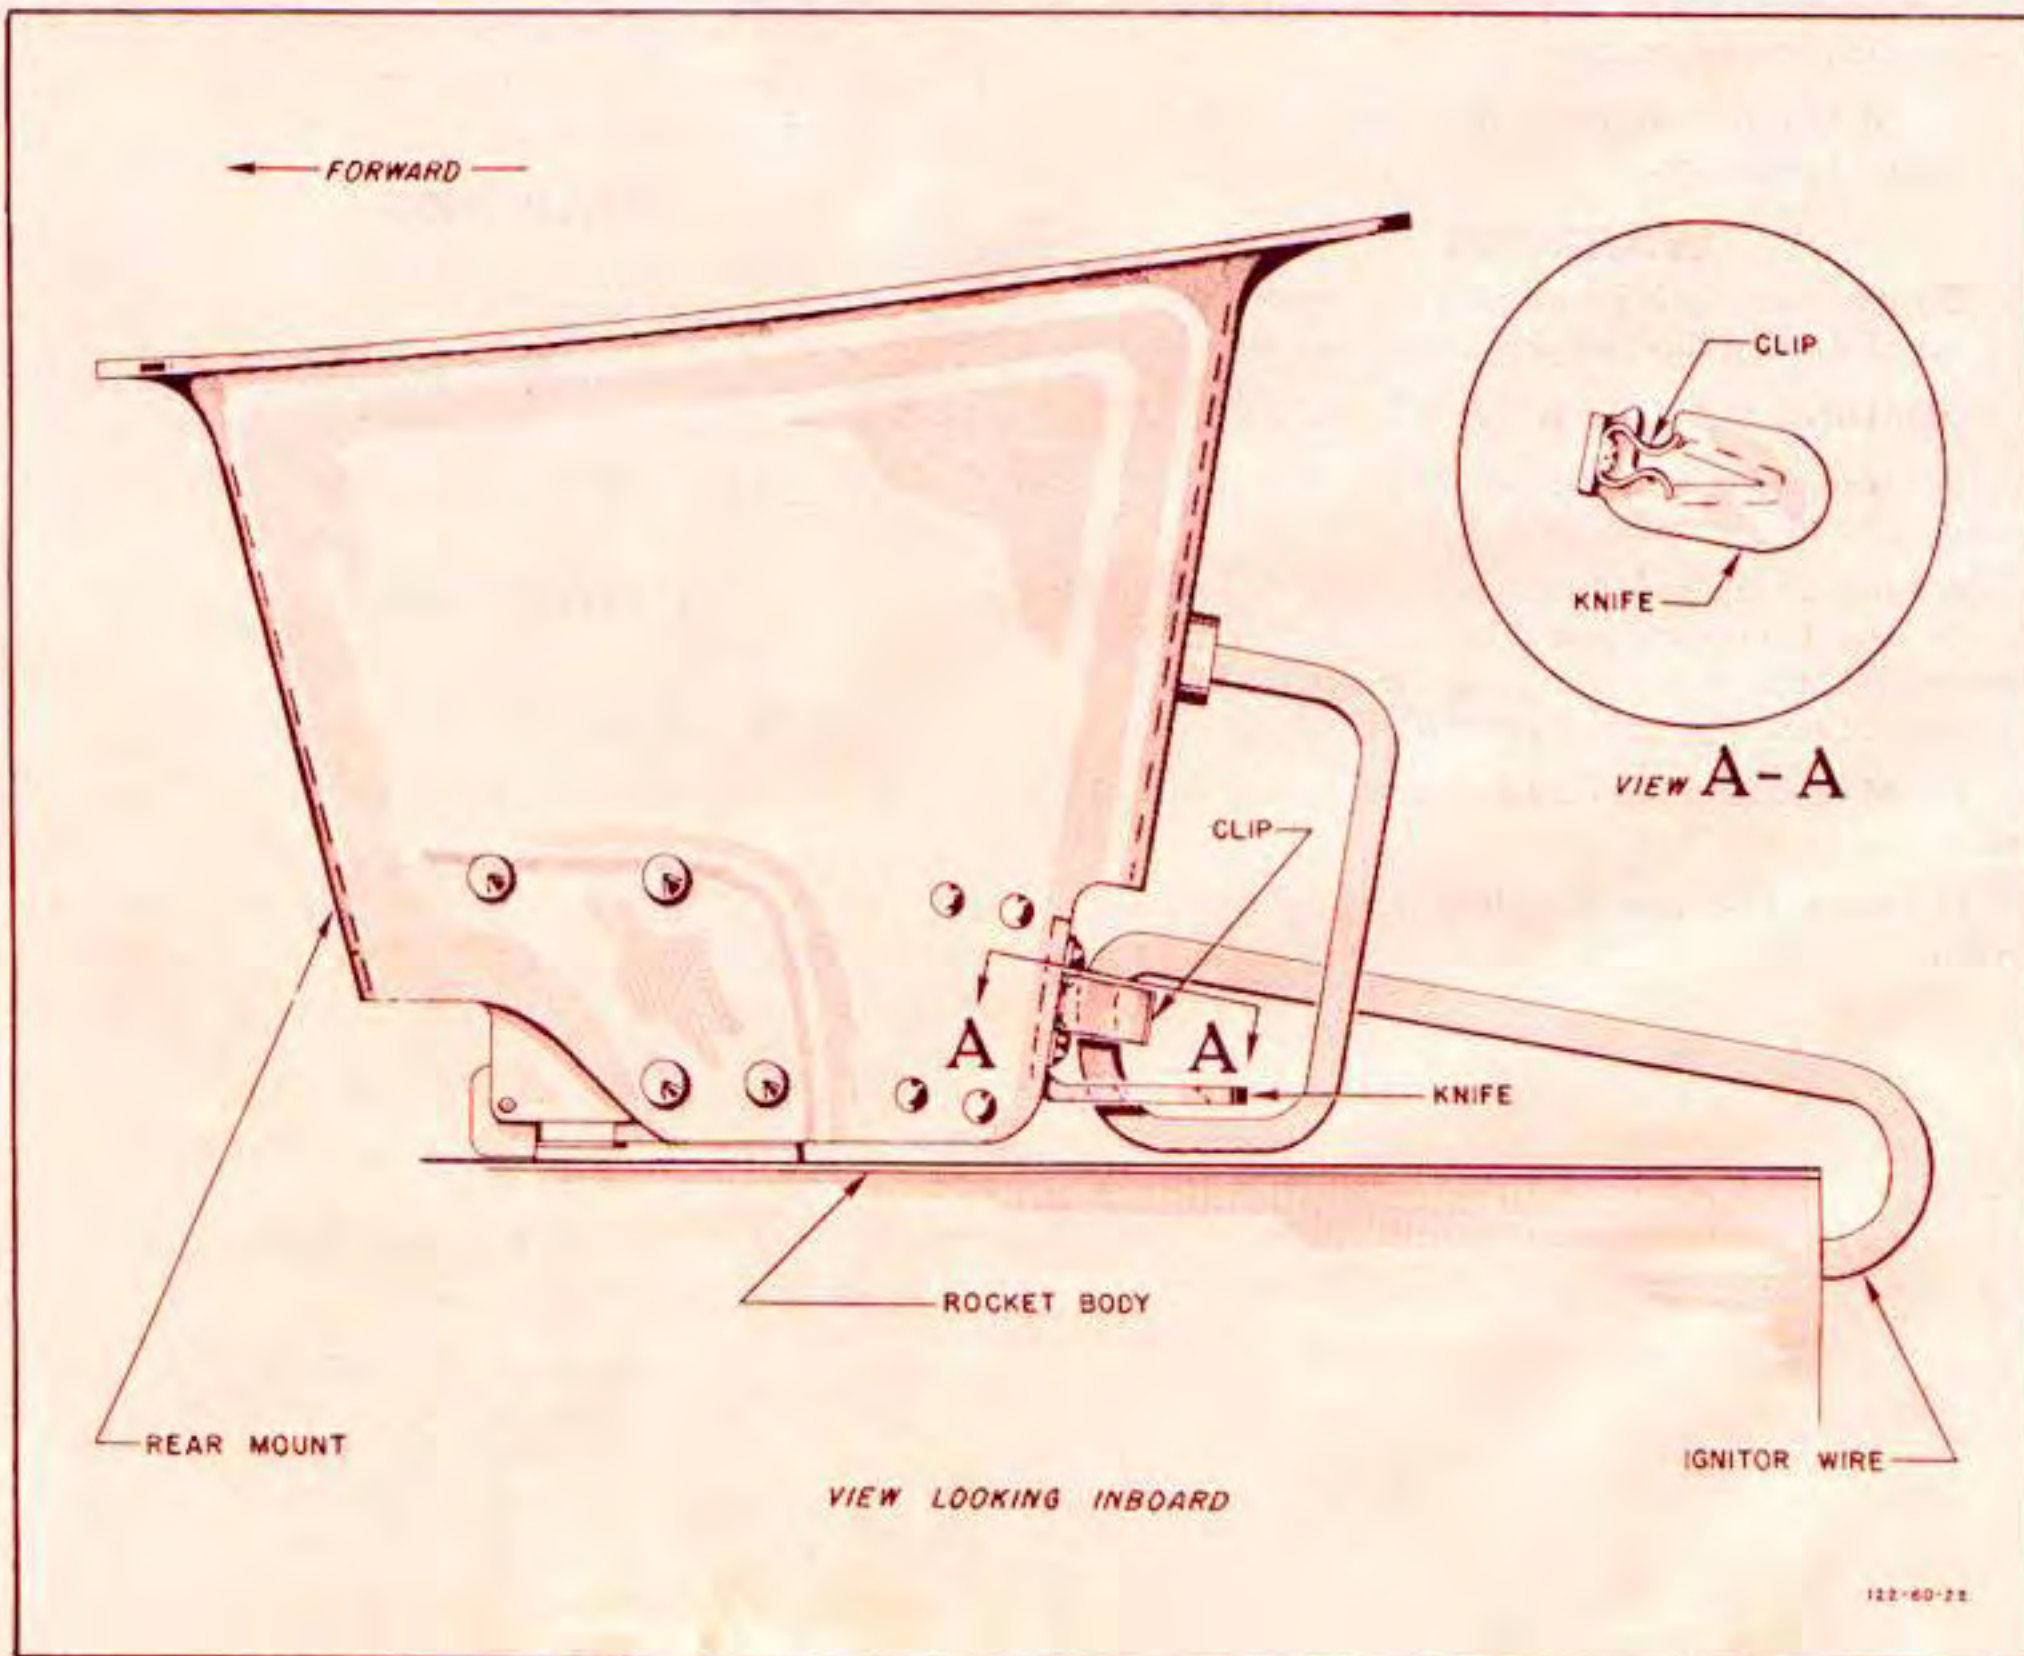

Figure 467B—Method of Installing Rocket Igniter Wire
(2) Working consecutively from inboard to outboard, first one wing then the other, insert igniter wire plug of each rocket in rear mount. Loop the igniter wire as shown in figure 467B.